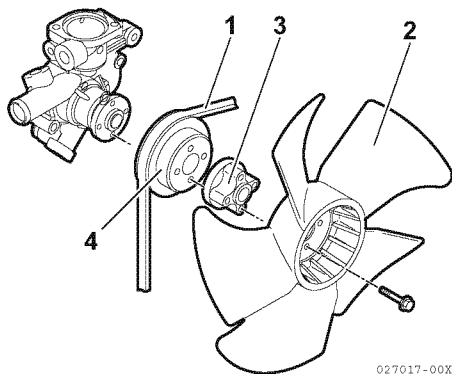

Figure 7-6
1. Loosen the cooling fan V-belt (**Figure 7-6, (1)**).
2. Remove the engine cooling fan guard (if equipped), engine cooling fan (**Figure 7-6, (2)**), spacer (**Figure 7-6, (3)**) (if equipped), V-pulley (**Figure 7-6, (4)**) and cooling fan V-belt.